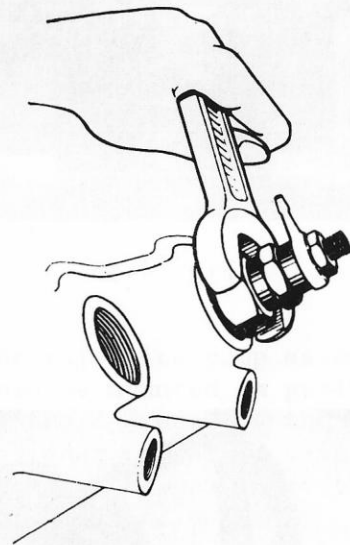

Fig. 4-58
- (1) The nozzle assembly should be put back in place and clamped with a torque of 10 - 12 m-kp after a nozzle gasket is put through the nozzle assembly. (See Fig. 4-58)